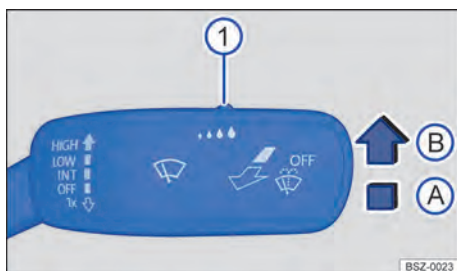

Fig. 83 On the right of the steering column: wiper lever.
1. Push the lever to the desired position → Fig. 83.
The sensitivity of the rain and light sensor can be adjusted manually using the switch in the wiper lever → Fig. 83 ① → ⚠.